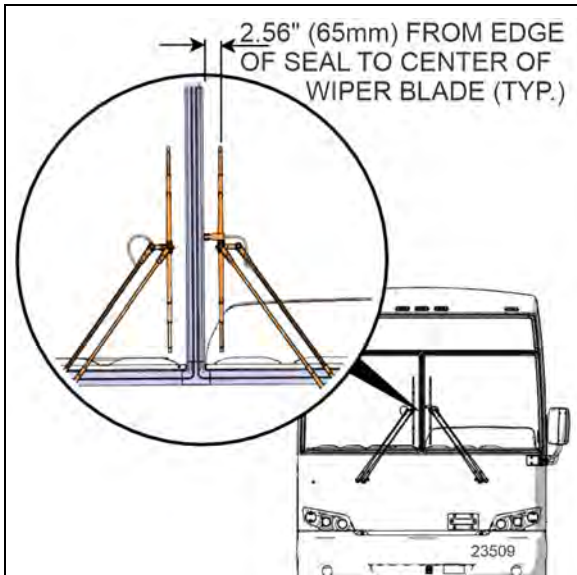

FIGURE 10: WIPER ARM POSITIONING
1. Install the wiper arms and position as shown in Figure 10.
3. Lift the blades then release the wiper arm so it falls back on the windshield. If necessary, loosen the arm mounting nuts and adjust the position as shown in Figure 10.